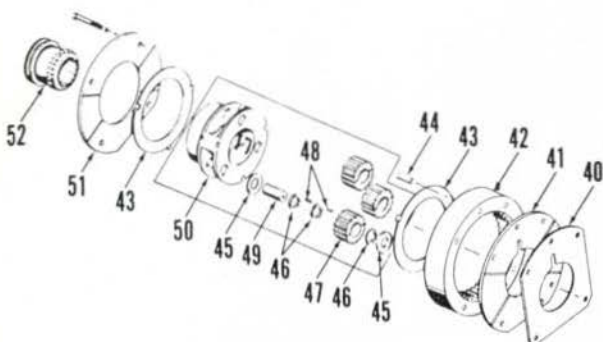

Fig. 139—Exploded view of planetary assembly used with manual shuttle transmissions.
127 as a general guide. It is not necessary to detach transmission from engine. Remove planetary shift fork and coupling from rear of planetary. Remove the four retaining cap screws, then withdraw rear cover plate (51—Fig. 139), thrust washer (43) and planet carrier (50). Pry ring gear (42) and dowels from transmission case. Remove front cover (41) and shim (40).
Fig. 141—Exploded view of manual shuttle transmission input shafts, mainshaft, reverse idler, pto lower shaft, countershaft and related components. Planetary unit is shown in Fig. 139.